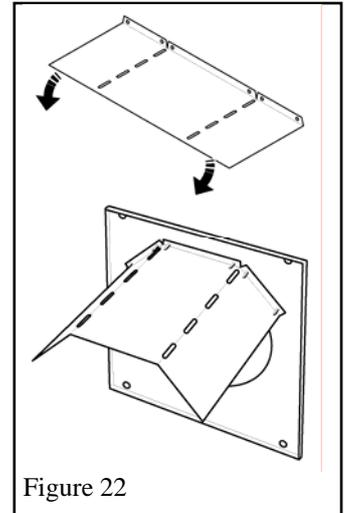

Figure 22
1. Bend the wall shields and screw to the inside of the wall plates with 6 thread cutting screws per plate. See figure 22.